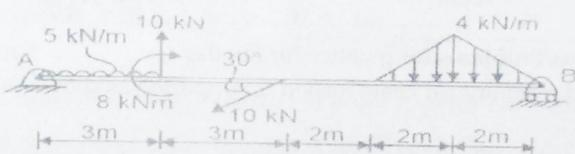

Fig 2.54
- 1) Draw FBD for a given beam shown in fig 2.54.